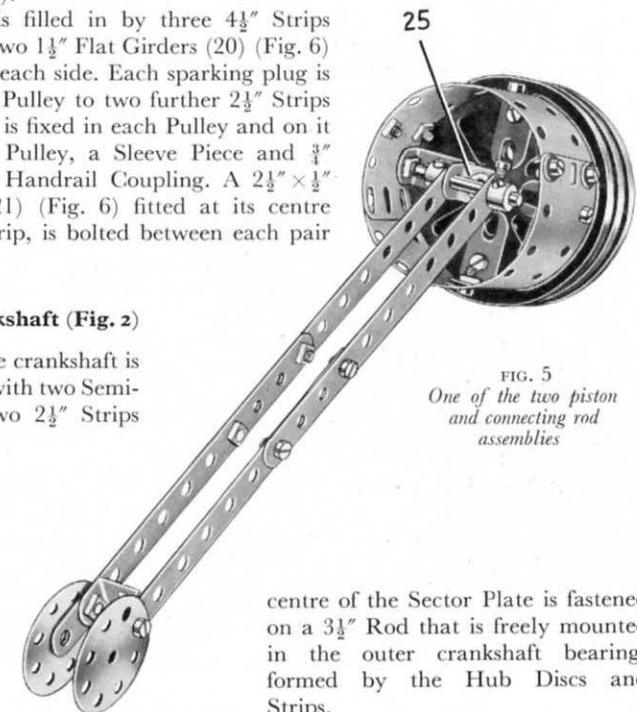

FIG. 5
The Pistons and Connecting Rods (Fig. 5)
One of the piston assemblies is shown removed from the model in Fig. 5. Each piston consists of three 3" Pulleys fixed on a $1\frac{1}{2}$ " Rod that carries at its lower end a large Fork Piece (25). The skirt is formed by two $5\frac{1}{2}$ " \times $1\frac{1}{2}$ " Flexible Plates with their ends overlapped three holes. These Plates are bolted to $1" \times \frac{1}{2}"$ Angle Brackets fixed to the lower one of the 3" Pulleys.